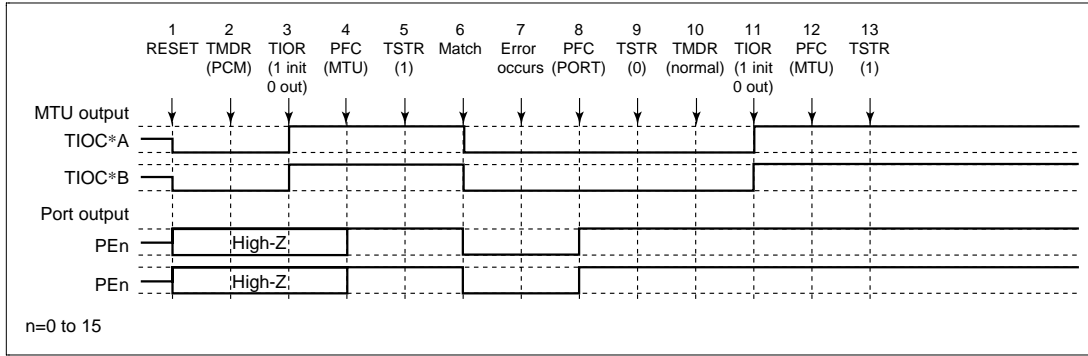

Figure 12.112 Error Occurrence in Phase Counting Mode, Recovery in Normal Mode
(17) Operation when Error Occurs during Phase Counting Mode Operation, and Operation is Restarted in Normal Mode: Figure 12.112 shows an explanatory diagram of the case where an error occurs in phase counting mode and operation is restarted in normal mode after re-setting.
1 to 9 are the same as in figure 12.112.
- 1 to 9 are the same as in figure 12.112.
(21) Operation when Error Occurs during Complementary PWM Mode Operation, and Operation is Restarted in Normal Mode: